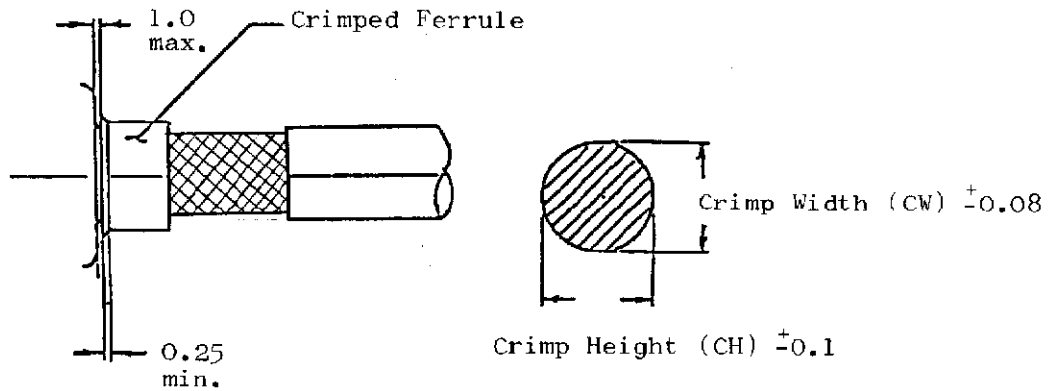

Fig. 13
6.4 Crimp the ferrule on the wire by using appropriate tool as shown in Fig. 16. Crimping of the ferrule must be conforming to the requirements specified in Fig. 13 and Fig. 16.